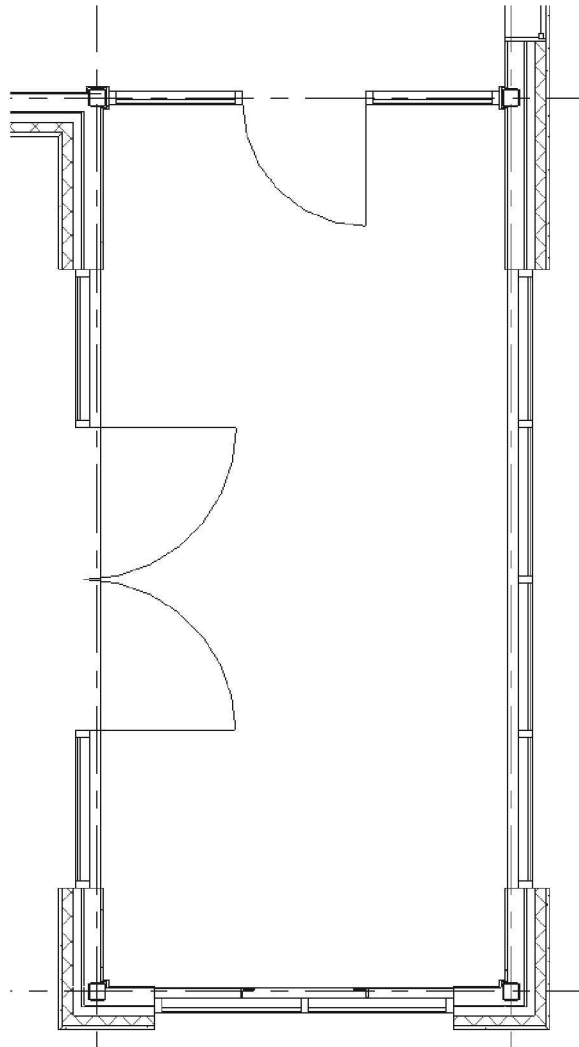

FIGURE 11-4.7 Interior door added
34. With the door selected, again press **Tab** if required to select it, use the flip-controls to adjust the door's swing and hand as shown in Figure 11-4.7.